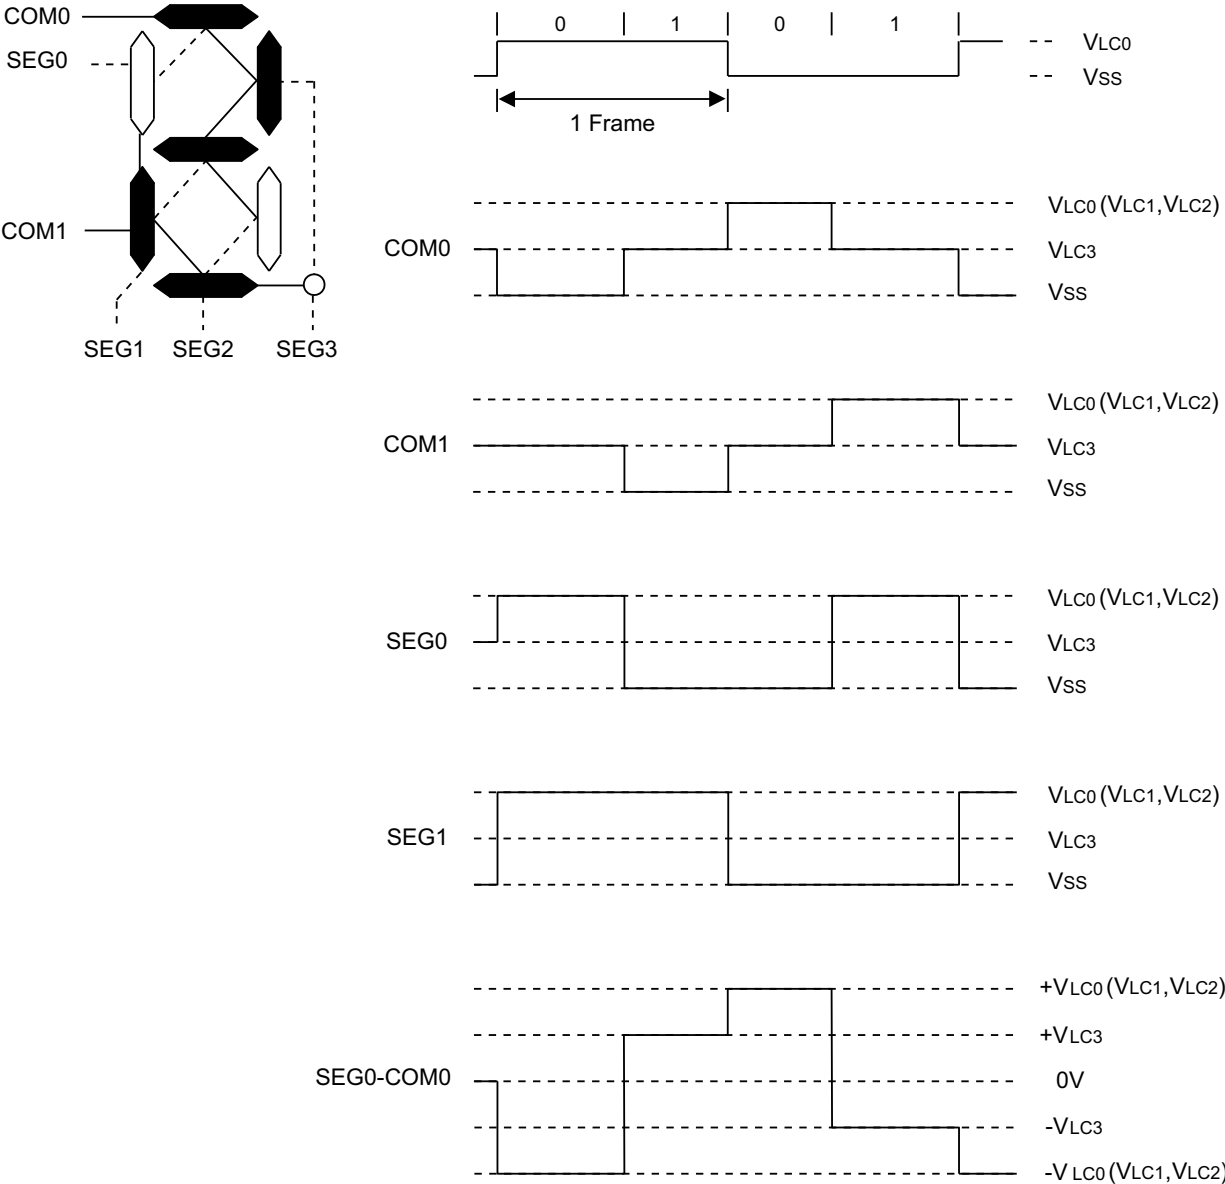

Figure 92. LCD Signal Waveforms: 1/3 Duty, 1/3 Bias
► **Note:** In Figure 92,  $V_{LC0} = V_{LC1}$ .